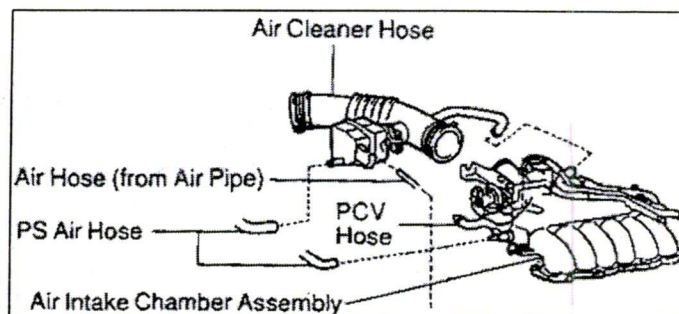

Figure 5
7. Working from above the vehicle, unplug all corresponding hoses, cables and clamps between the air filter box and air intake chamber assembly. Remove the air cleaner hose (Figure 5).